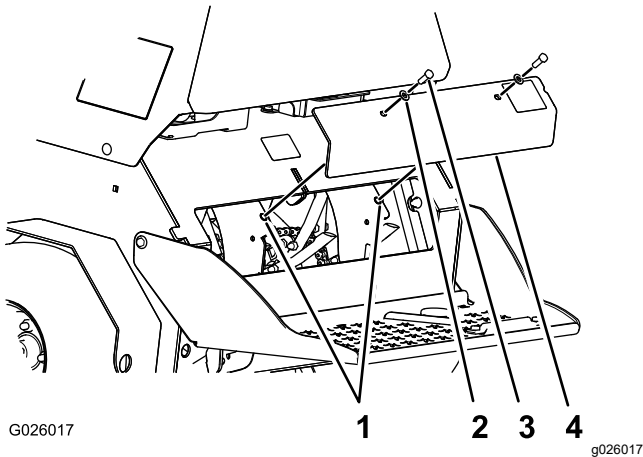

Figure 60
3. Remove the 2 bolt (3/8 x 1 inch) and 2 washers (3/8 inch) that secure the rear-cover panel to the chassis, and remove the panel (Figure 60).
6. Align the holes in the rear-cover panel to the holes in the chassis (Figure 60).
7. Secure the cover panel to the chassis with the 2 bolts and 2 washers (Figure 60) that you removed in step 3, and torque the bolts to 37 to 45 N·m (27 to 33 lb-in)